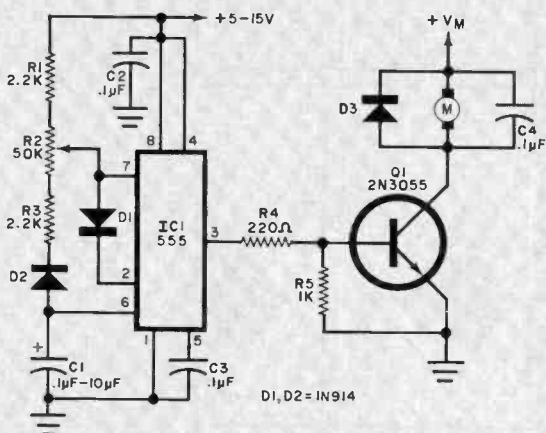

Fig. 2. A PWM controller for dc-powered loads. Timer IC1 generates a pulse train of constant period but variable duty cycle.
**The PWM Controller** The controller (Fig. 2) employs the familiar 555 timer IC operating in the astable mode, but there is a twist—the multivibrator produces square waves of a constant frequency but variable duty cycle. The addition of silicon switching diodes *D1* and *D2* (1N914 or similar) makes this possible. Here's how.
Pulse-width modulation can be used to control loads other than motors. For example, a lamp can be substituted for the motor in Fig. 2 and the "free-wheeling" diode removed. The circuit is now an efficient dc lamp dimmer. (The familiar ac lamp dimmers operate on this principle, employing thyristors as power switches.) Voltage dropping can also be accomplished using PWM, especially if the dropped voltage need not be very "clean" dc. Simply replace the lamp with the load you want to power and adjust  $R2$  until the required voltage drop exists across the load. Connecting a good filter capacitor across the load will smooth out the dc. Also, the higher the frequency of the pulse train driving the transistor, the easier it is to smooth the dc into an acceptable supply voltage.  $\diamond$
Typical waveforms for the circuit are shown in Fig. 2. The upper waveform is present at the emitter of *Q6* when *R20* is set for a period of 17 seconds. The next waveform down illustrates the voltage at the collector of *Q4* after waveshaping by the *Q5* buffer stage. The inverse of this
Fig. 2. Circuit waveforms show, at top, output of UJT; and, below that, collector of Q4 after waveshaping. Next two traces are white noise. One from Q1 at 10 mV and, at bottom, final audio output, with swing from 100 to 400 millivolts.